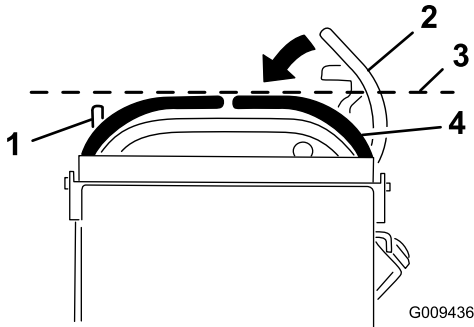

Figure 68
3. Push the right motion-control lever down out of the NEUTRAL-LOCK position (Figure 68).
4. Check if the right motion-control lever aligns horizontally with the left motion-control lever (Figure 68).